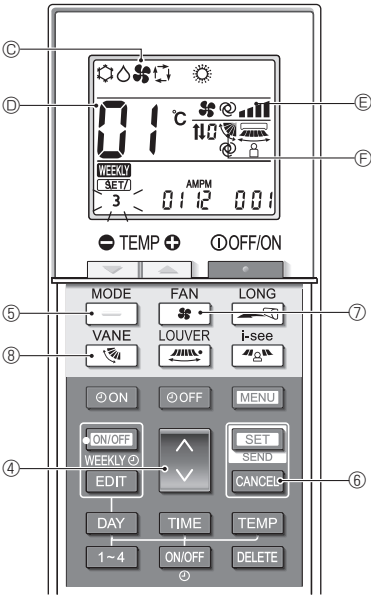
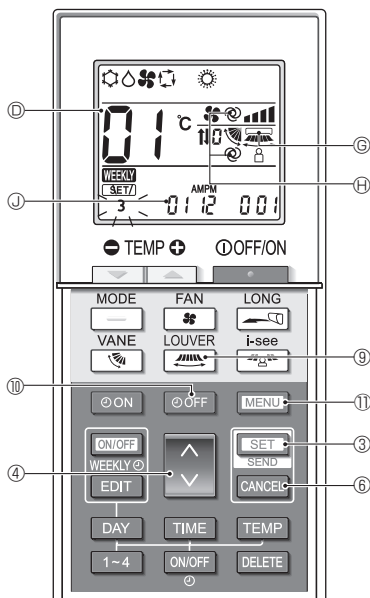

Fig. 6-2
Fig. 6-3
(Fig. 6-2, Fig. 6-3)
- If the setting is incorrect, press the button ⑥ and repeat the procedure from step 1.
6.4. Completing the settings (Fig. 6-3)